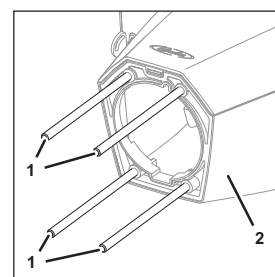

Fig. 3
1. Attach the threaded bolts (Fig. 3/1), on the stand (Fig. 3/2) of the unit, by screwing the threaded bolts into the stand (Fig. 3/2).